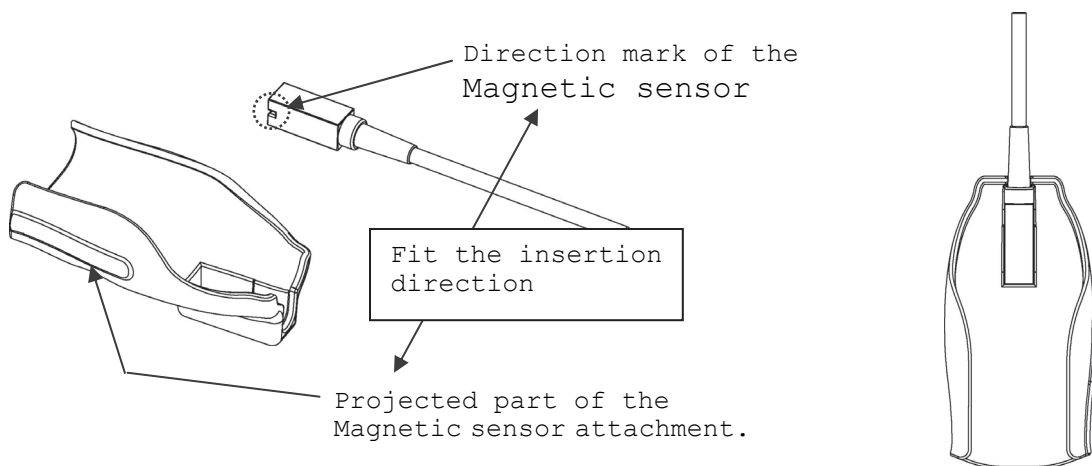

Fig. 7 How to attach the Magnetic sensor
- a) Attach the magnetic sensor into the probe at the correct direction as shown in Fig. 7.